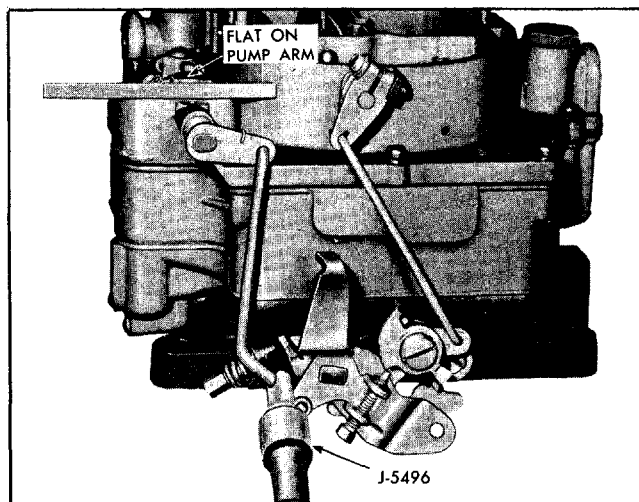

Fig. 6B-66 Accelerating Pump Arm Adjustment
2. Hold straight edge across top of dust cover boss at pump arm (Fig. 6B-66). Bend throttle connector
rod at lower angle (use tool J-5496) until flat on top of pump arm is parallel with straight edge while throttle valves are seated (Fig. 6B-66).